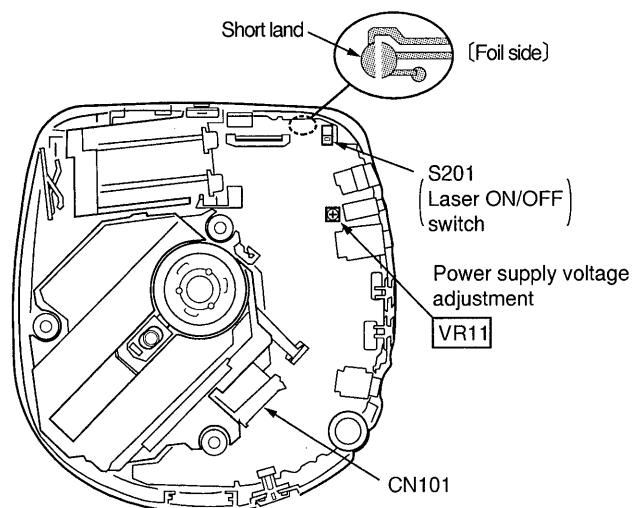

Fig. 1
Short-circuit the lands of the laser ON/OFF switch (S201) by soldering them. It turns “ON” position. (Refer to below **Fig. 1** or printed circuit board and wiring connection diagram for short land location on page 26.)
2. Take care to connect CN101 and CN102, as shown in **Fig.1**.
4. Adjust **VR11** on the P.C.B. at **3.10 ~ 3.14 V**, as shown in **Fig. 1**.
Fig. 1 is a block diagram showing the compression-shockproofing mechanism, the difference of which from the conventional mechanism is as follows: Input information read out at double speed undergoes data compression (16 bits → 4 bits) by the encoder in the ADPCM (Adaptive Difference PCM) and stored in the external memory; the stored memory information undergoes data elongation (4 bits → 16 bits) by the decoder in the ADPCM and supplied at normal speed to the D/A converter.